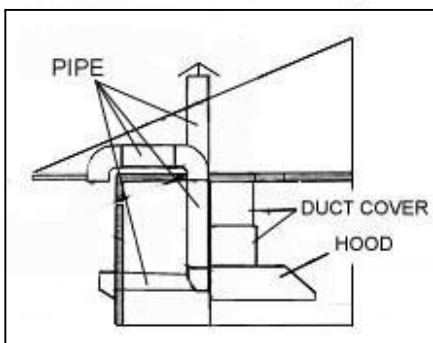

Figure 21
- Decide the location of the venting pipe from the hood to the outside. Refer to Figure 21